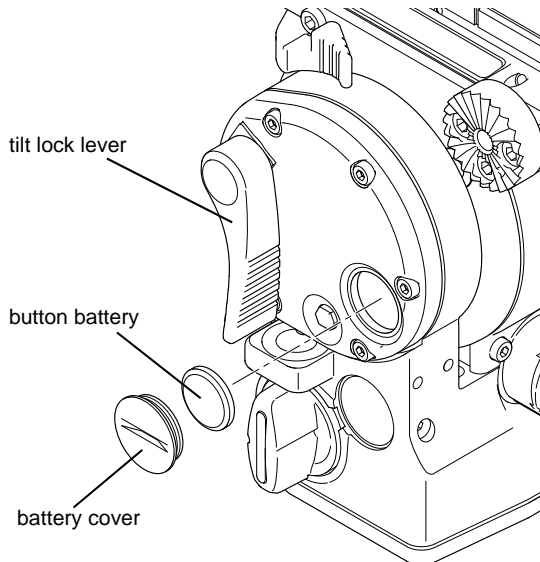

Figure 6 Replacing the battery
1. If required, rotate the tilt lock lever to access the battery cover (Figure 6).